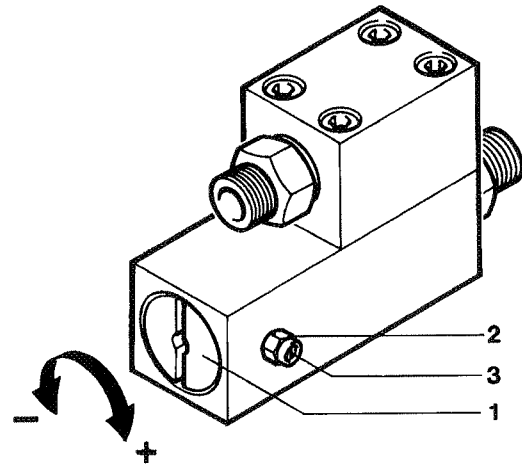

Fig. 6 Pressure maintaining/non-return valve 350 bar
To adjust the valve, loosen jam nut (2, Fig. 6) and set screw (3). Adjust screw (1) to the required pressure using a suitable screwdriver.